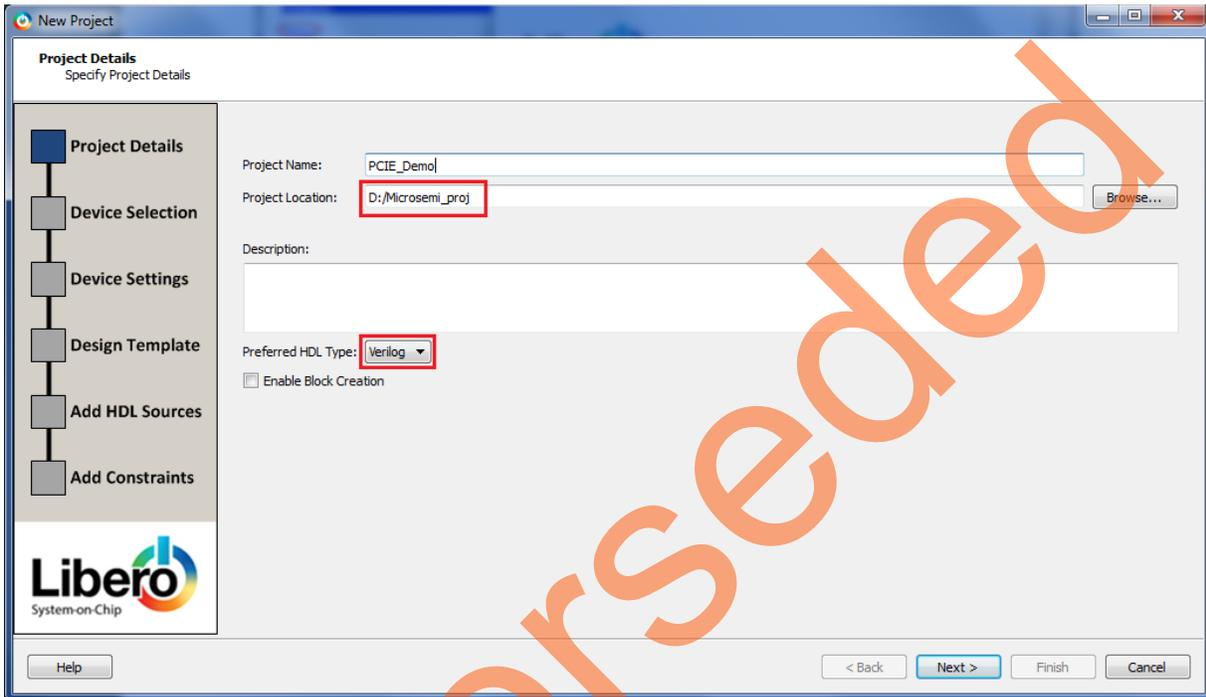

Figure 3 • Libero SoC New Project Dialog Box
3. Enter the following **New Project** information as shown in Figure 3 and click **Next**.